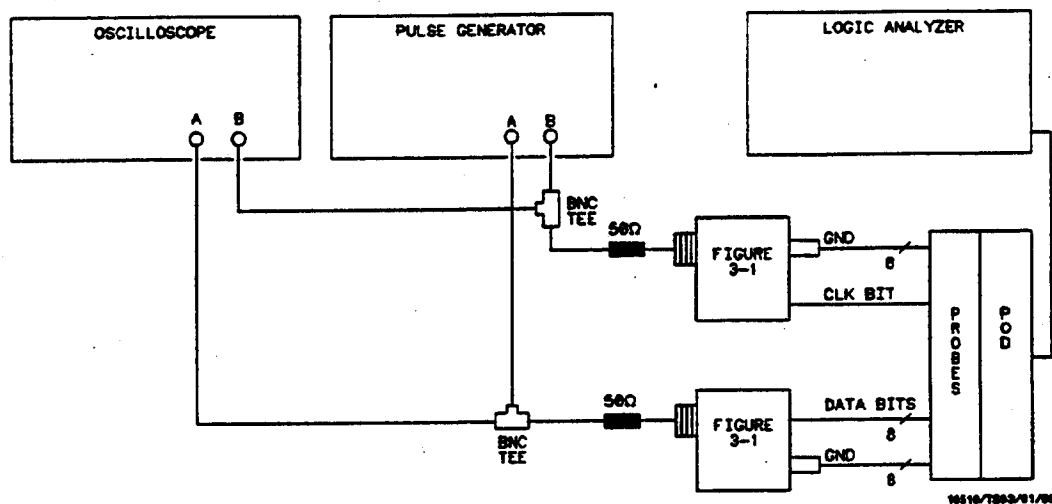

Figure 3-29. Equipment Setup For Test 7
1. Connect the HP 16510B and test equipment as shown in figure 3-29 by connecting channels 0 - 7 of the pod under test to test connector. During demultiplexed clocking only the lower eight bits of each pod are used.